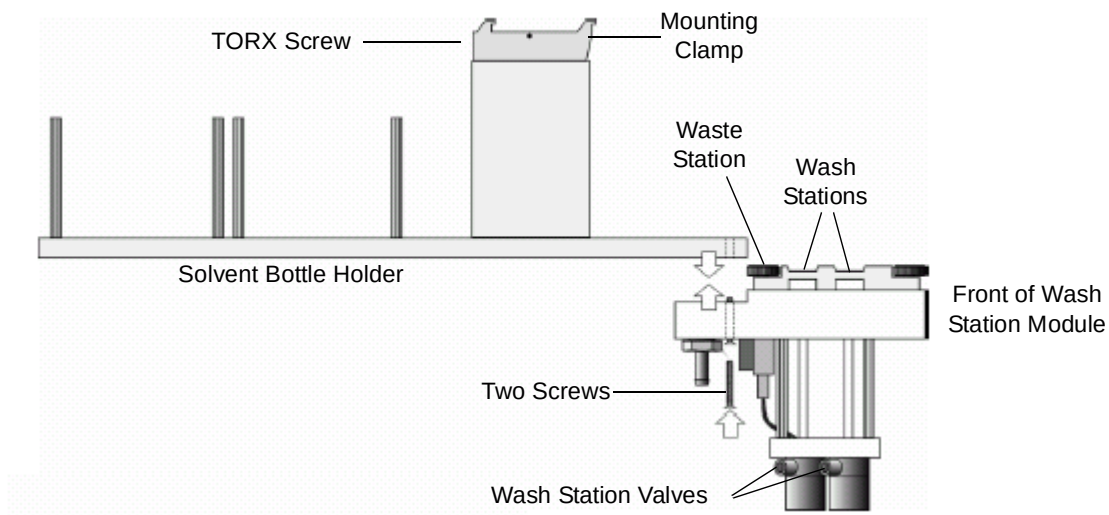

Figure 2-11 Assembling the Wash Station Module (Left Side View)
2. Attach the wash station module (upside down) to the solvent bottle holder using the two screws, then turn the module so that the right side is up (as in Figure 2-11).